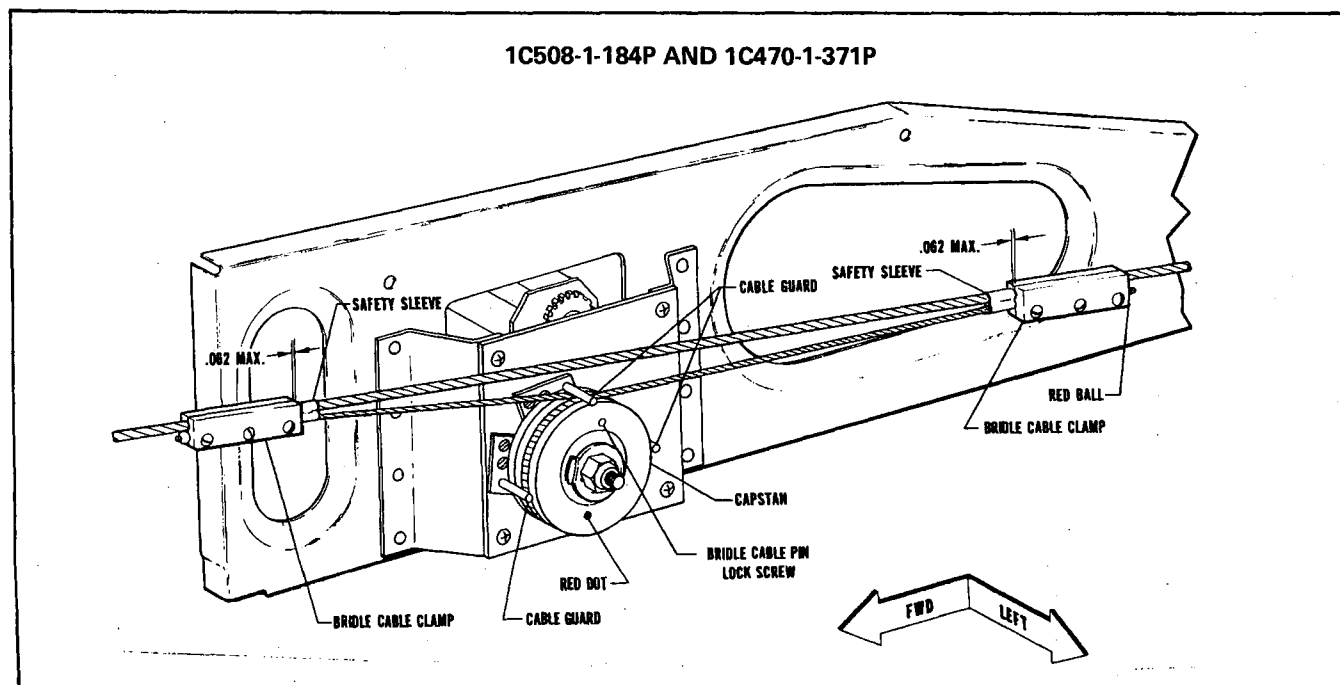

Figure 3-24. Pitch Servo Installation, PA-23-250 (Six Place)
3-31. INSTALLATION OF PITCH SERVO. PA-23-250 (six place). (Refer to Figure 3-24.)
- e. REFER TO FIGURE 3-14 AND CHECK THAT THE CONTROL CABLE TENSION (Z) IS ADJUSTED TO 35 ± 4 POUNDS PRIOR TO ATTACHING THE BRIDLE CABLE CLAMPS. Ascertain area on cable where clamp attaches is clean, dry and free of all lubricants and anti-corrosive additives. Attach the bridle cable to the stabilator control cables. The bridle cable is drawn to the right stabilator cable and attached with clamps at the previously painted locations on the cable. The end of the bridle cable with the red ball attaches to the aft attachment point on the stabilator cable. (Refer to Figure 3-24.) (Should the stabilator cable not be painted, position the control wheel full forward and with the servo disengaged, bring the end of the bridle cable with the red ball aft and clamp it to obtain a minimum of 1/4 inch between the trim sensor pulley and the end of the cable. Attach the other end of the bridle cable to the forward attachment point.) Adjust the bridle cable clamps so the bridle cable tension (Y) is equal to the control cable tension between the bridle cable clamps (X) as shown in Figure 3-14 without increasing the control cable tension from the bridle cable clamps outward. At no time shall the bridle cable tension be greater than the control cable tension between the clamps. Adjusting the bridle cable tension will lower the control cable tension between the two bridle cable clamps. Torque the bridle cable clamp screws to 15 ± 1 inch-pounds. Again move the control wheel forward and check clamp and sensor clearance.